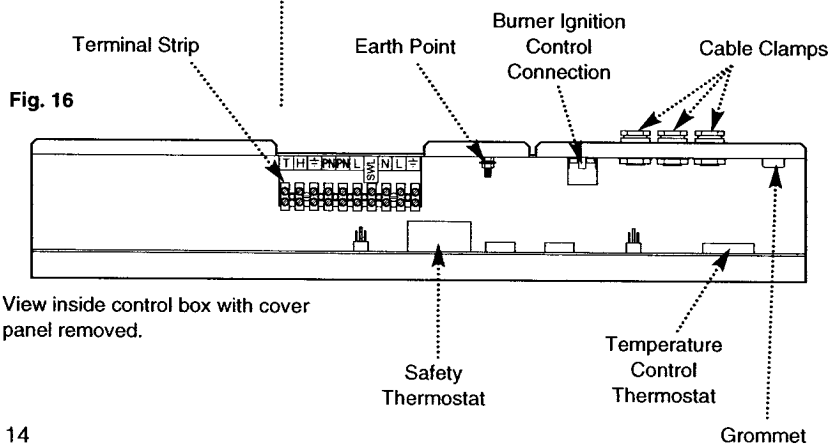

Fig. 16
3. The input wiring to the boiler and the pump feed from the boiler should be routed through the grommet/clamps in the control box rear panel (Fig. 16).